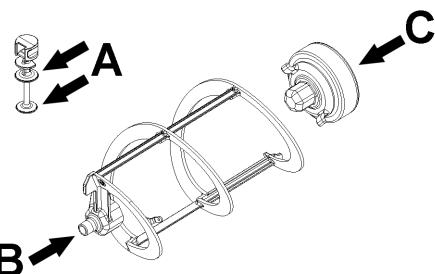
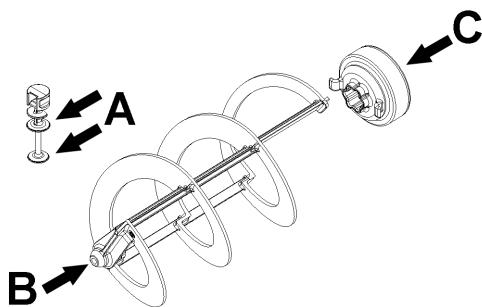

figure 9
figure 10
- 2 Lubricate the tap piston, the hexagonal joint and the mixer at the points indicated in figure 9 (B-Frozen 6) or figure 10 (B-Frozen 10), using only the grease that came with the machine
- 3 Reassemble the tap on the container in reverse order compared to that shown in figure 9 and figure 10.